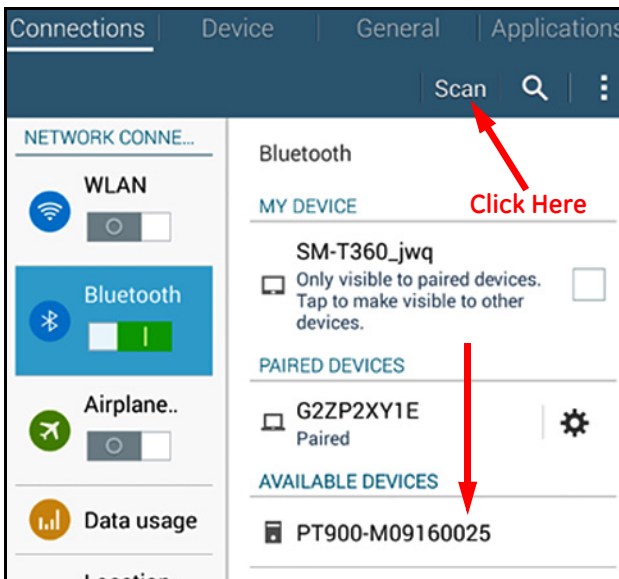

Figure 64: Available Devices List
6. After the APP finishes loading, the default *Transmitter* list is displayed. During initial installation, this list is empty (see *Figure 64* below).
7. To connect to a new PT900 transmitter, click **SCAN** (see red arrow in *Figure 64* below) and the APP will search for all available transmitters via Bluetooth.
8. After the scan has been completed, any new transmitters which were found are listed in the **AVAILABLE DEVICES** section of the tablet screen (see red arrow in *Figure 64* below). Click on your transmitter to pair it with the tablet via Bluetooth.
Note: *In the Figure 64 on page 52, your PT900 transmitter is identified by the serial number on its label (see Figure 65 below).*